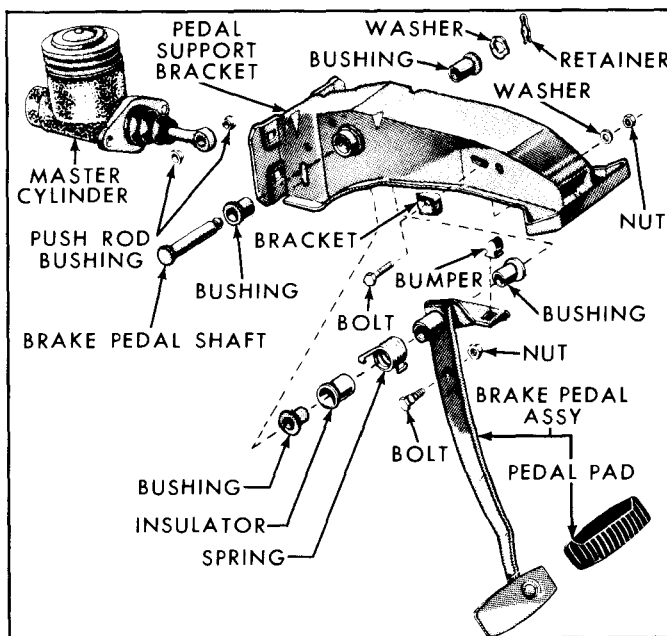

Fig. 2-4—Brake Pedal and Related Parts—Comet Drive Transmission—(60C-2004)
1. Disconnect the brake pedal return spring at the brake pedal bracket. See figure 2-4.
5. Install the nylon bushing, spring washer, and the retaining clip on the pedal shaft. See figure 2-4.